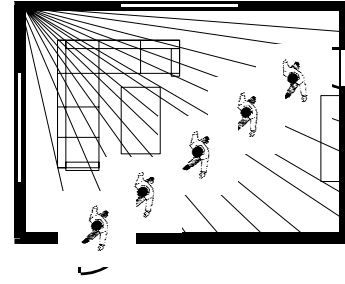

Figure 1 - Overhead View
- Mount the sensor so that an intruder will most likely walk across the detection pattern, see Figure 1.